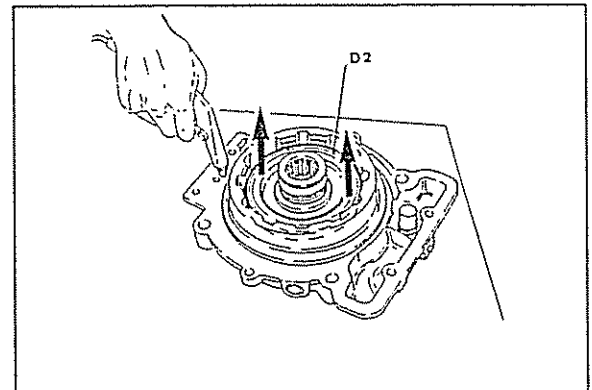

Figure B8
2.14 Position the adapter housing on the bench so the top of the housing is closest to you. Remove the reverse piston (T3-2 #2) from the adapter housing by applying a quick blast of pressurized air, as shown in Figure B8, into the reverse apply port at the top of the adapter housing closest to center.